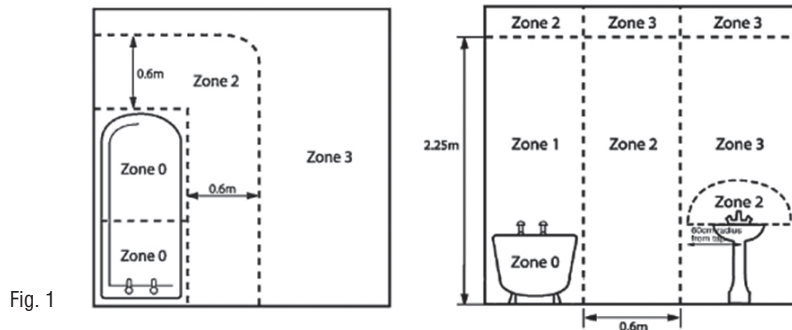

Fig. 1
- Do not install the electrical heating element into a towel radiator fitted in ZONE 0 or ZONE 1 (Fig 1).